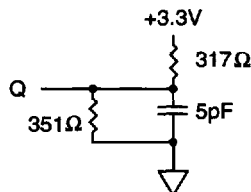

Figure 2
4. The load used for V_{OH}, V_{OL} testing is shown in Figure 2. AC load current is higher than the stated DC values. AC I/O curves are available upon request.
2. This parameter is measured with output load as shown in Figure 2.